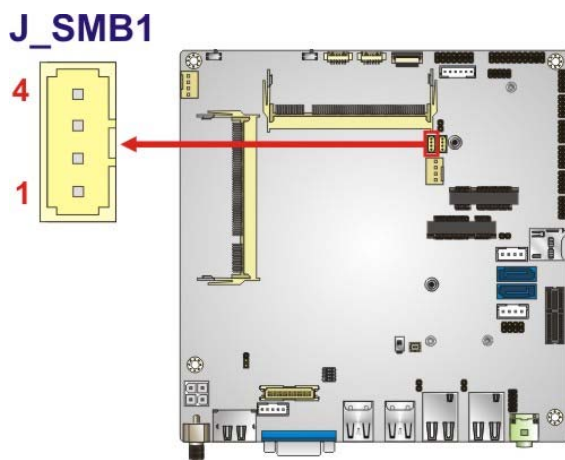

Figure 3-22: SMBUS Connector Location
- CN Location:** See **Figure 3-22**